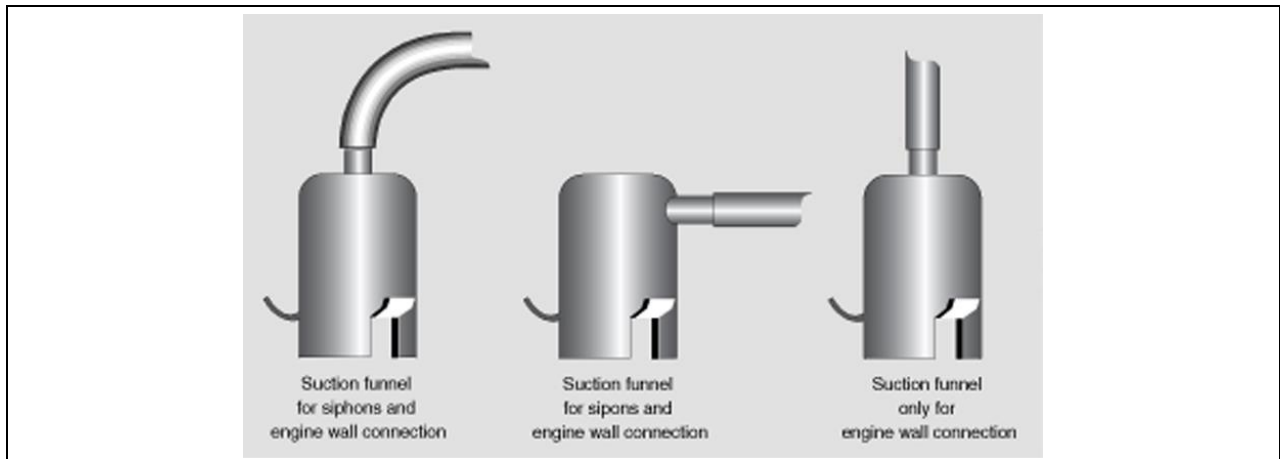

Figure 18: Different types of suction funnels
The suction system always requires a so called 'suction funnel' (see page 22, Fig. 18) at each suction point. This prevents the system against incoming splash oil. During normal operation mode of an engine the OMD sucks out a small concentration of oil mist which was generated by Blow-By or mechanical spraying. This oil mist may fall out in the suction pipes and must be drained out the pipes. Ideally, drainage flow back ends inside the engine's crankcase.
- Insert the suction funnel from the crankcase side into the siphon block, align it in a vertical position (see Figure 18) **with the opening at the bottom** and fix the small clamping nut.
The suction funnels have to be fitted in such a way that flooding by splashing bearing oil or returning piston cooling oil is avoided (see Figure 18).